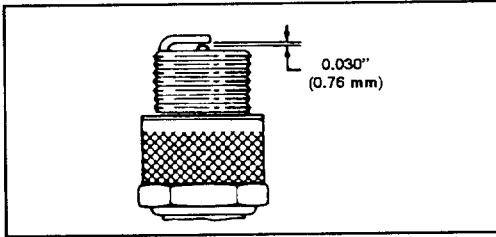

Figure 14
3. Set air gap at 0.030" (0.76 mm) (Fig. 14). Install correctly gapped spark plug and gasket seal. Tighten plug firmly to 15 ft-lb (20 N-m).